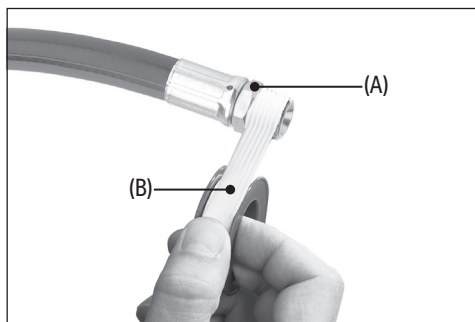

Fig. 2
6.2 Connecting to the Air Supply – Fig. 2